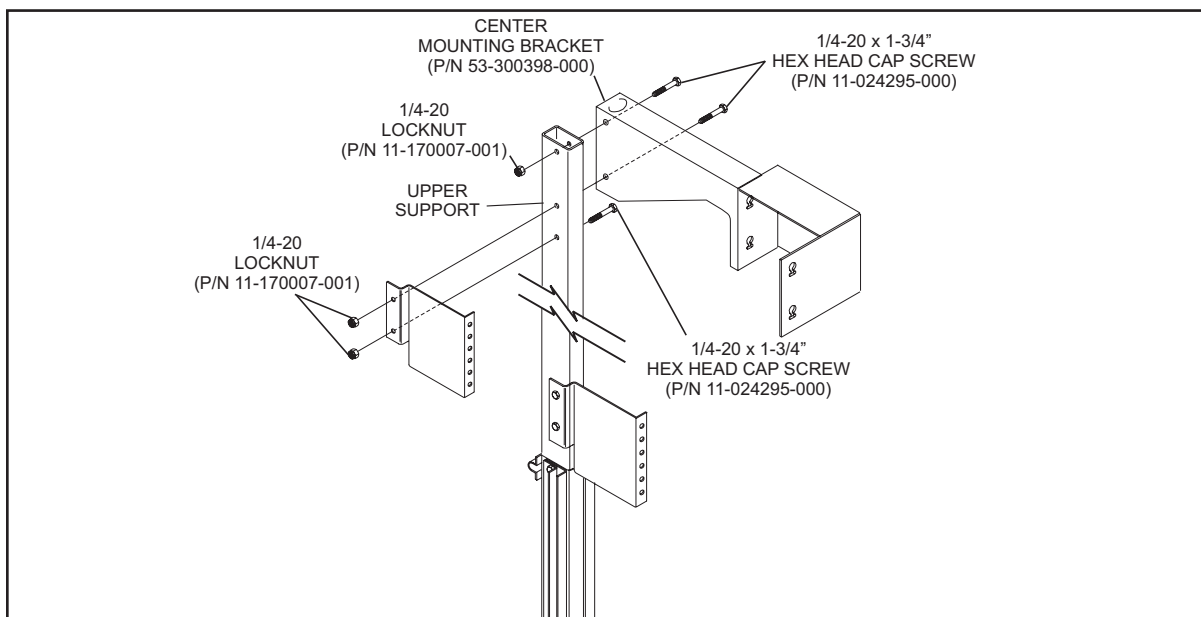

Figure 31
1. Install the intermediate support assembly “C” projection screen mounting bracket and upper graphic standoff. Refer to *Figure 31*.